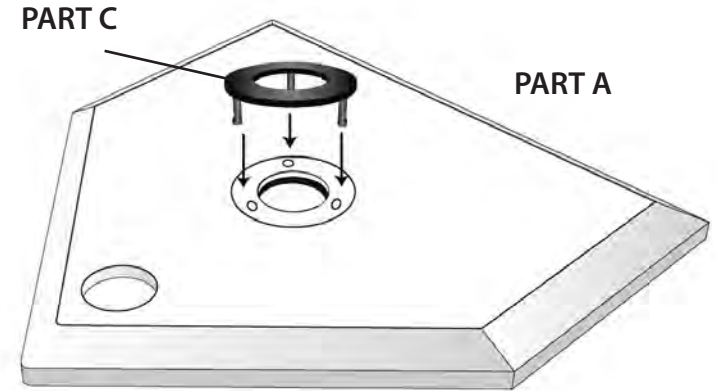

FIGURE 1
**STEP 1** - Make sure **PART A's** bottom is touching ground. In the center hole of **PART A (Base)**, insert **PART C** into the three small holes surrounding the center hole on top of base as shown in *Figure 1*.